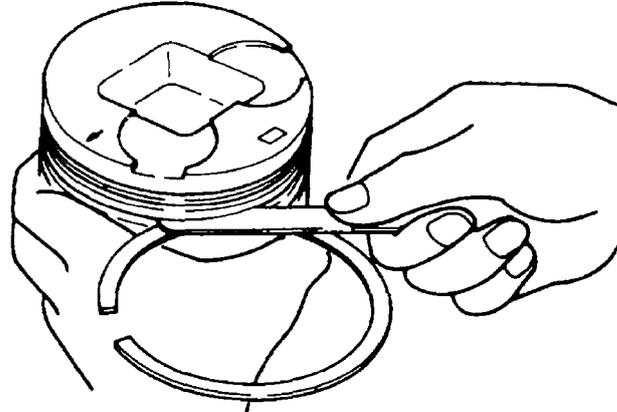

Figure 31 Measuring the Piston Ring Clearance
- z. Ensure that all trace of carbon is removed from the piston ring grooves and, with the aid of a set of standard piston rings and feeler gauges, measure the clearance between the piston ring and the ring land (Figure 31). Refer to Table 6 for the standard clearances and limits. Replace any piston where the clearance exceeds the limits. Each piston and cylinder liner forms a matched set. If a piston replacement is required, the respective cylinder liner must also be replaced.